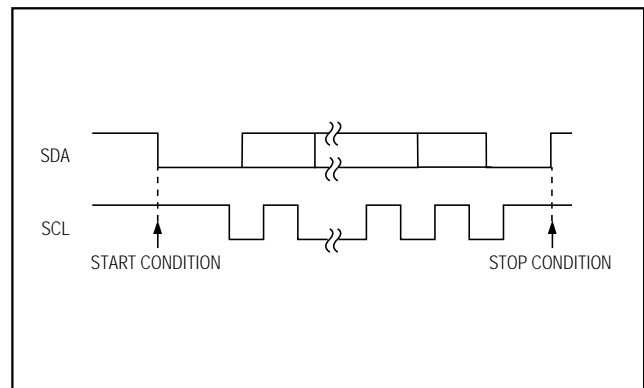
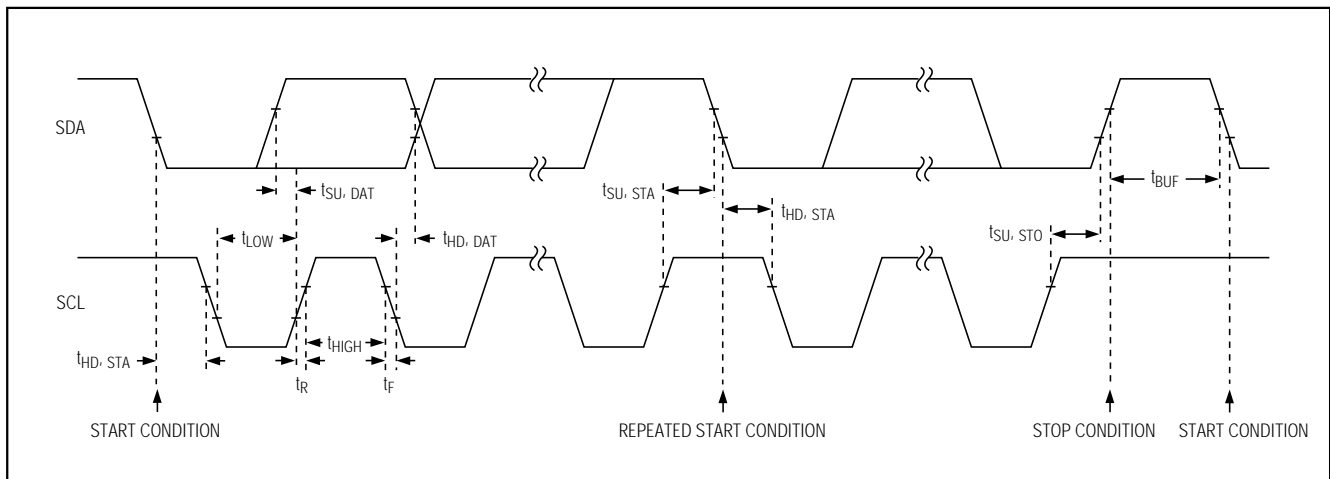
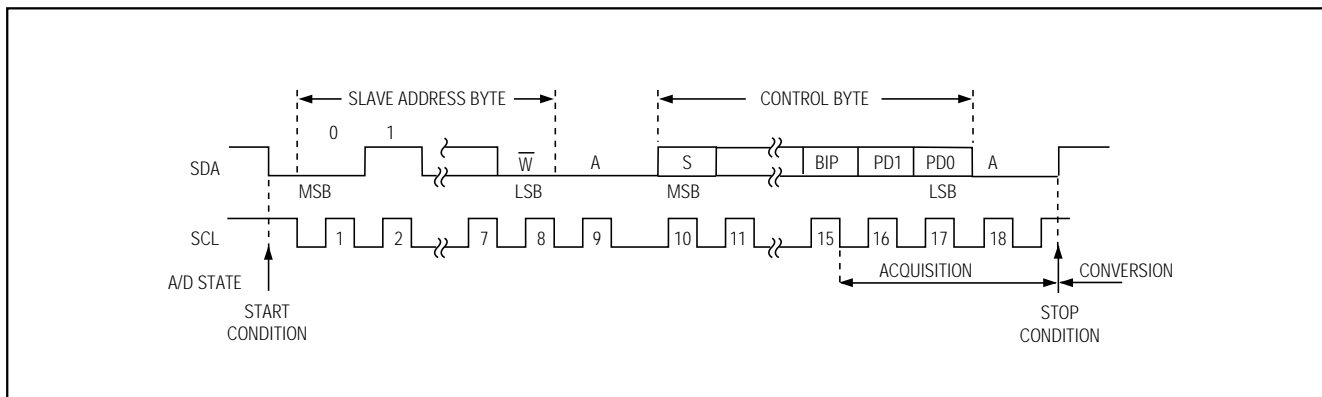

Figure 4. START and STOP Conditions
Figure 5. 2-Wire Serial-Interface Timing Diagram
Figure 9. Complete 2-Wire Serial Write Transmission
The master signals the beginning of a transmission with a START condition (S), which is a high-to-low transition on SDA while SCL is high. When the master has finished communicating with the slave, the master issues a STOP condition (P), which is a low-to-high transition on SDA while SCL is high (Figure 4). The bus is then free for another transmission. Figure 5 shows the timing diagram for signals on the 2-wire interface. The address-byte, control-byte, and data-byte are transmitted between the START and STOP conditions. The SDA state is allowed to change only while SCL is low, except for the START and STOP conditions. Data is transmitted in 8-bit words. Nine clock cycles are required to transfer the data in or out of the MAX127/MAX128. (Figures 9 and 10).
When the write bit is set ($R/\bar{W} = 0$), acquisition starts as soon as Bit 2 (BIP) of the input control-byte has been latched and ends when a STOP condition has been issued. Conversion starts immediately after acquisition. The MAX127/MAX128's internal conversion clock frequency is 1.56MHz, resulting in a typical conversion time of 7.7 μ s. Figure 9 shows a complete write cycle.